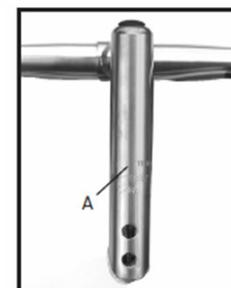

Figure 13- Minimum insertion mark on quill stem
3. Adjust the handlebar to the desired height, but with the minimum insertion line inside the frame (Figure 13). A minimum of 23/4" (70 mm) of the stem quill must always remain in the frame.
Never ride your bicycle with a quill stem raised above the minimum insertion mark. A quill stem that is positioned too high can damage the bike and can cause you to lose control and fall. Make sure the minimum insertion mark (Figure 13) is inside the frame.